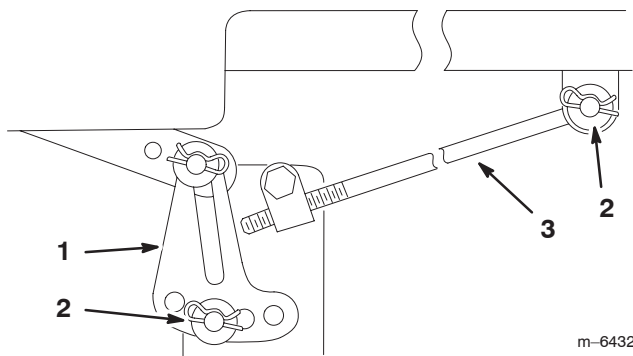

Figure 45
Note: Before removing the mower, make a note for which holes are used in the leveling brackets (Fig. 45).
5. Remove the hairpin cotter and washer from the adjusting rod (Fig. 45) on each side of the mower.
6. Remove the hairpin cotter and washer at the mower leveling brackets (Fig. 45) on each side of the mower. Note which hole the leveling bracket is mounted in for future installation. Slide the brackets off of the mounting pin.
5. Attach the adjusting rod to the machine with the washer and hairpin cotter (Fig. 45) on each side of the mower.
6. Slide the leveling brackets onto the mounting pins and secure them with the washers and hairpin cotters (Fig. 45).